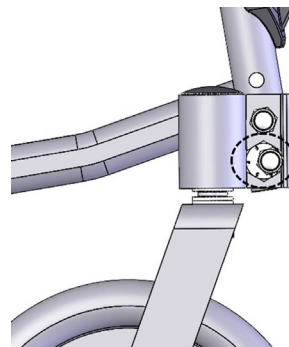

Figure 4.51
4.13.4 Use the tool to loosen the screws and nuts on the caster adapter. (See Figure 4.51)